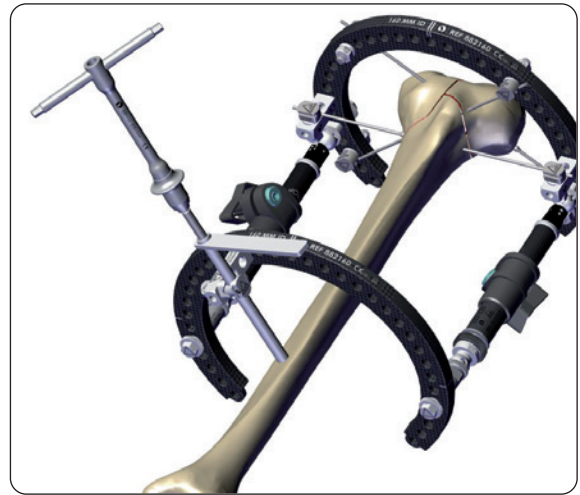

Fig. 7b
3. After drilling both cortices, remove the drill bit and drill guide. Wash any bone chips away with saline. Insert the desired half pin through the fixation bolt and the screw guide until it engages the second cortex (**Fig. 7b**).